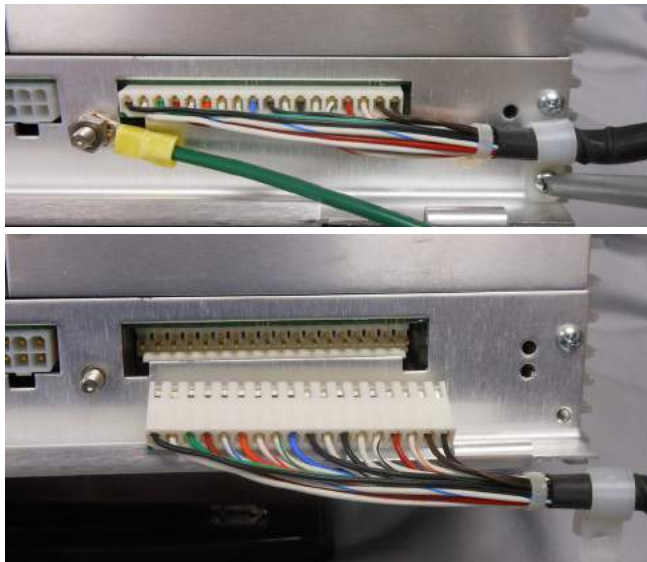

Figure 29. Removal of existing ground wire and wiring harness
4. Remove the strain relief screw (retain the screw and strain relief device) and disconnect the white connector from the side of the CL-7 control panel. See **Figure 29**.
5. Using a 3/8-inch wrench, remove the green ground wire from the side of the panel; retain the wire, washer, and nut. See **Figure 29**.